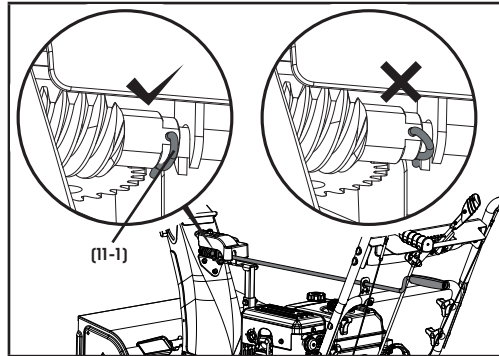

Figure 11
3. Align the lever and the gear, and then connect the R-clip (11-1). (Fig. 11)